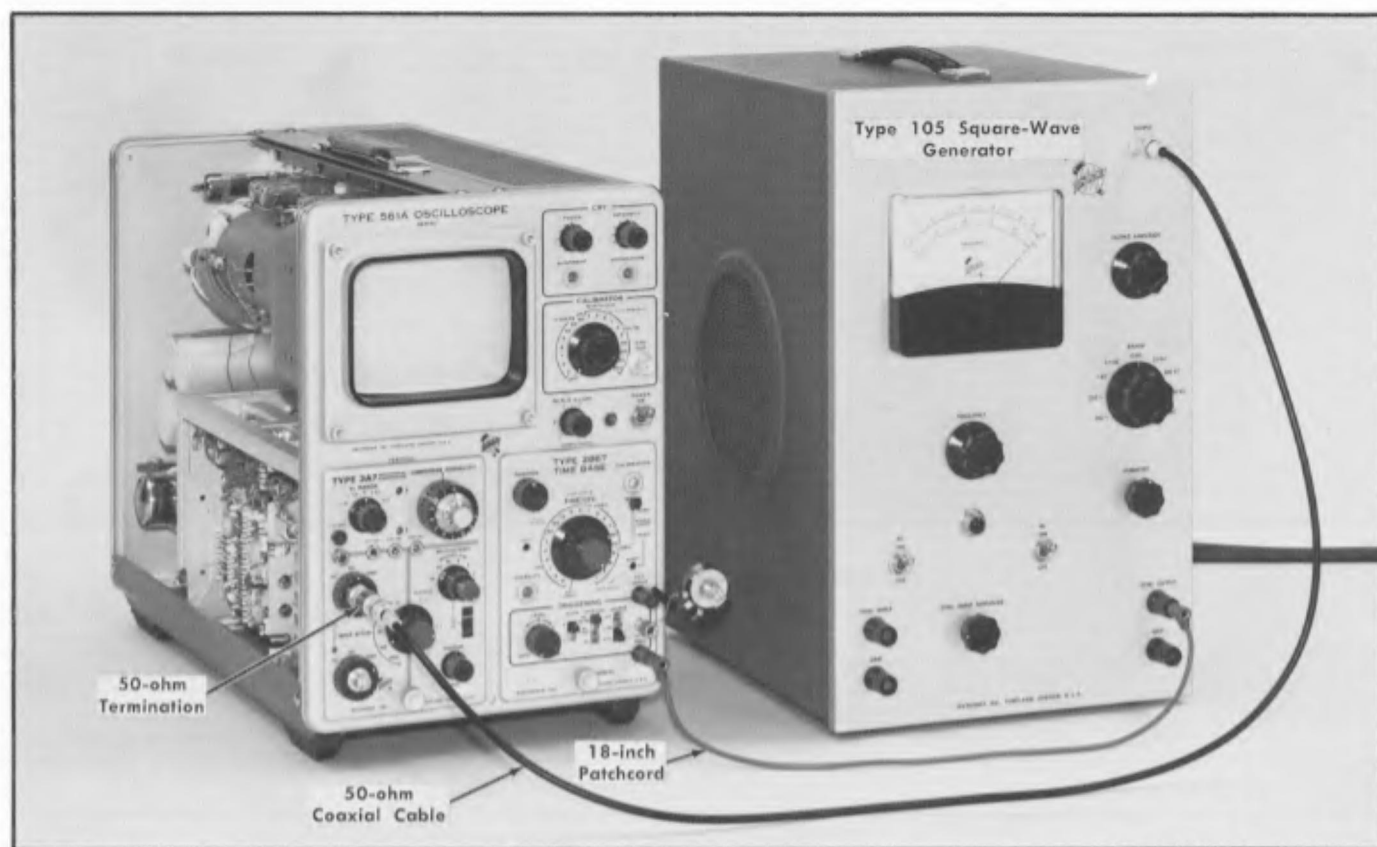

Fig. 5-22. Setup at completion of step 19c.
c. Apply a 10-kHz signal from the Type 105 Square-Wave Generator, or equivalent, through a 50-ohm coaxial cable and a 50-ohm termination to the Type 3A7 input A connector. Connect an 18-inch patch cord between the Type 105 Sync Output connector and the time-base Ext Trig connector. Fig. 5-22 shows the complete setup.
b. Apply the 10-kHz signal from the square-wave generator through the coaxial cable and termination to the Type 3A7 input B connector. Connect the generator sync output patch cord to the time-base Ext Trig connector. Set the generator DC switch to On. (This is the same setup as shown in Fig. 5-22, except, the 10-kHz 10-volt signal is applied to input B.)